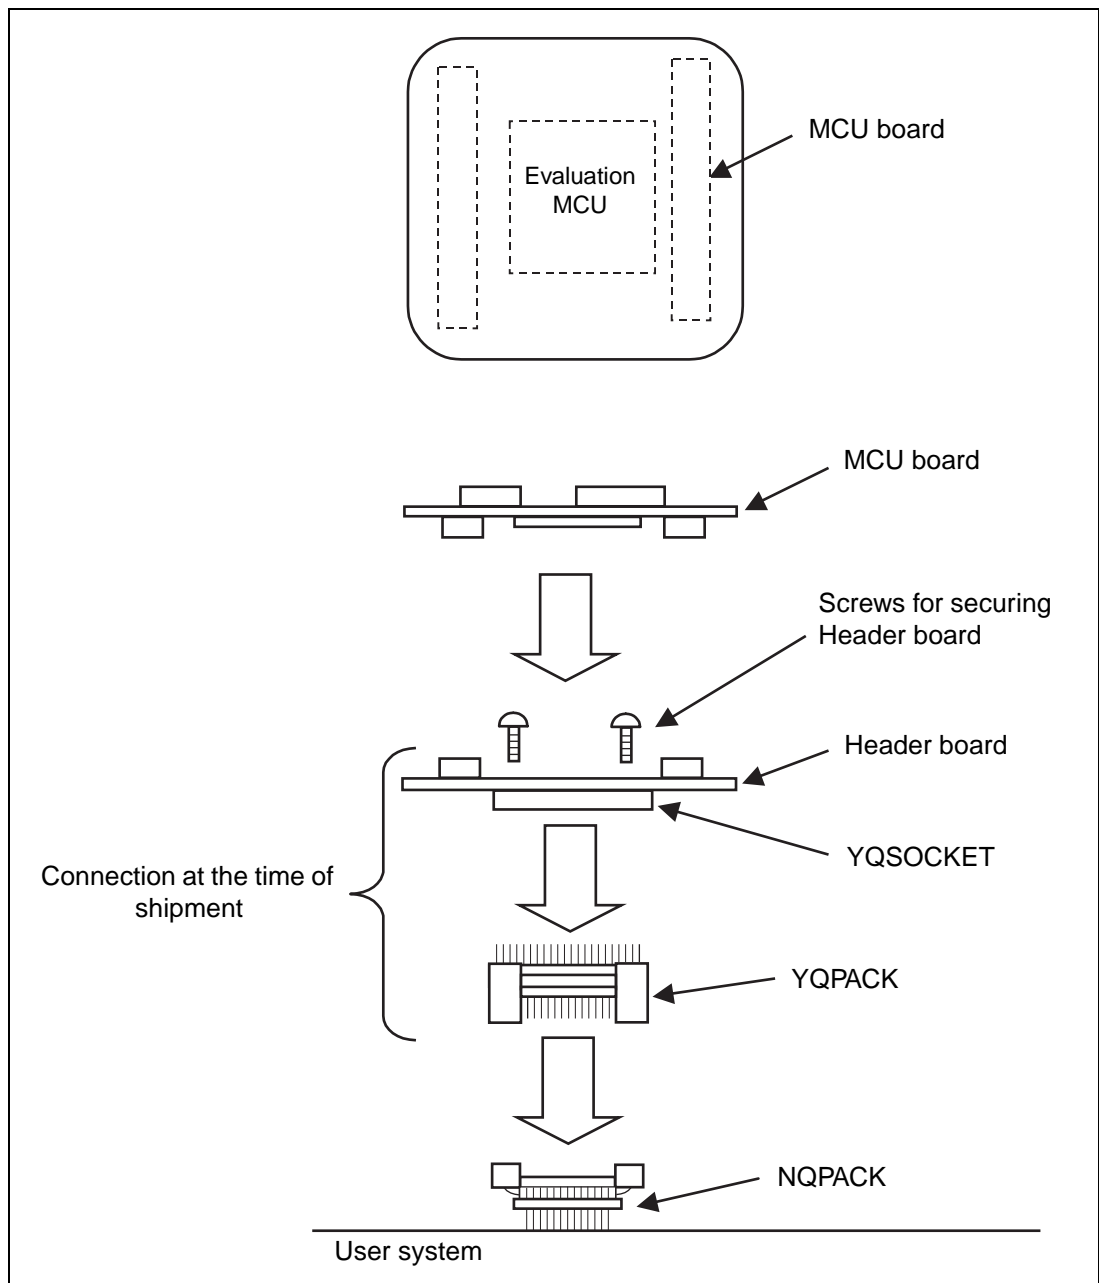

Figure 5 Connecting MCU board/header board to user system
3. Connect the MCU board to the header board while being careful not to excessively force the NQPACK. The MCU board can be connected to the header board only in the correct orientation as they have an incorrect insertion header socket to prevent reverse connection. Figure 5 illustrates how the MCU board, header board, NQPACK, and user system are connected together.